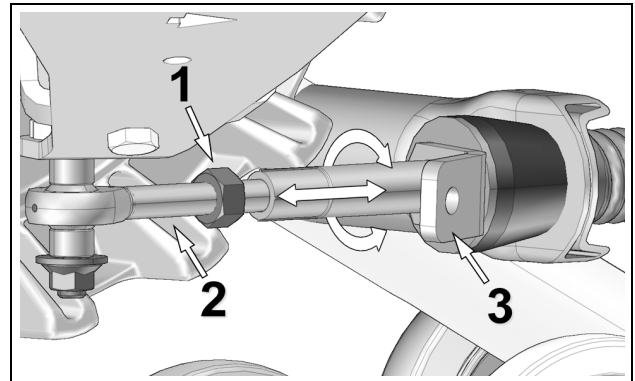

Figure 5
- Loosen jam nut (1). Adjust length of rod end (2) by rotating the steering limiter support plate on (3) the stabilizing arm. Use a 30 mm wrench to rotate support plate and obtain **254 mm** above the ground. Refer to Figure 5.